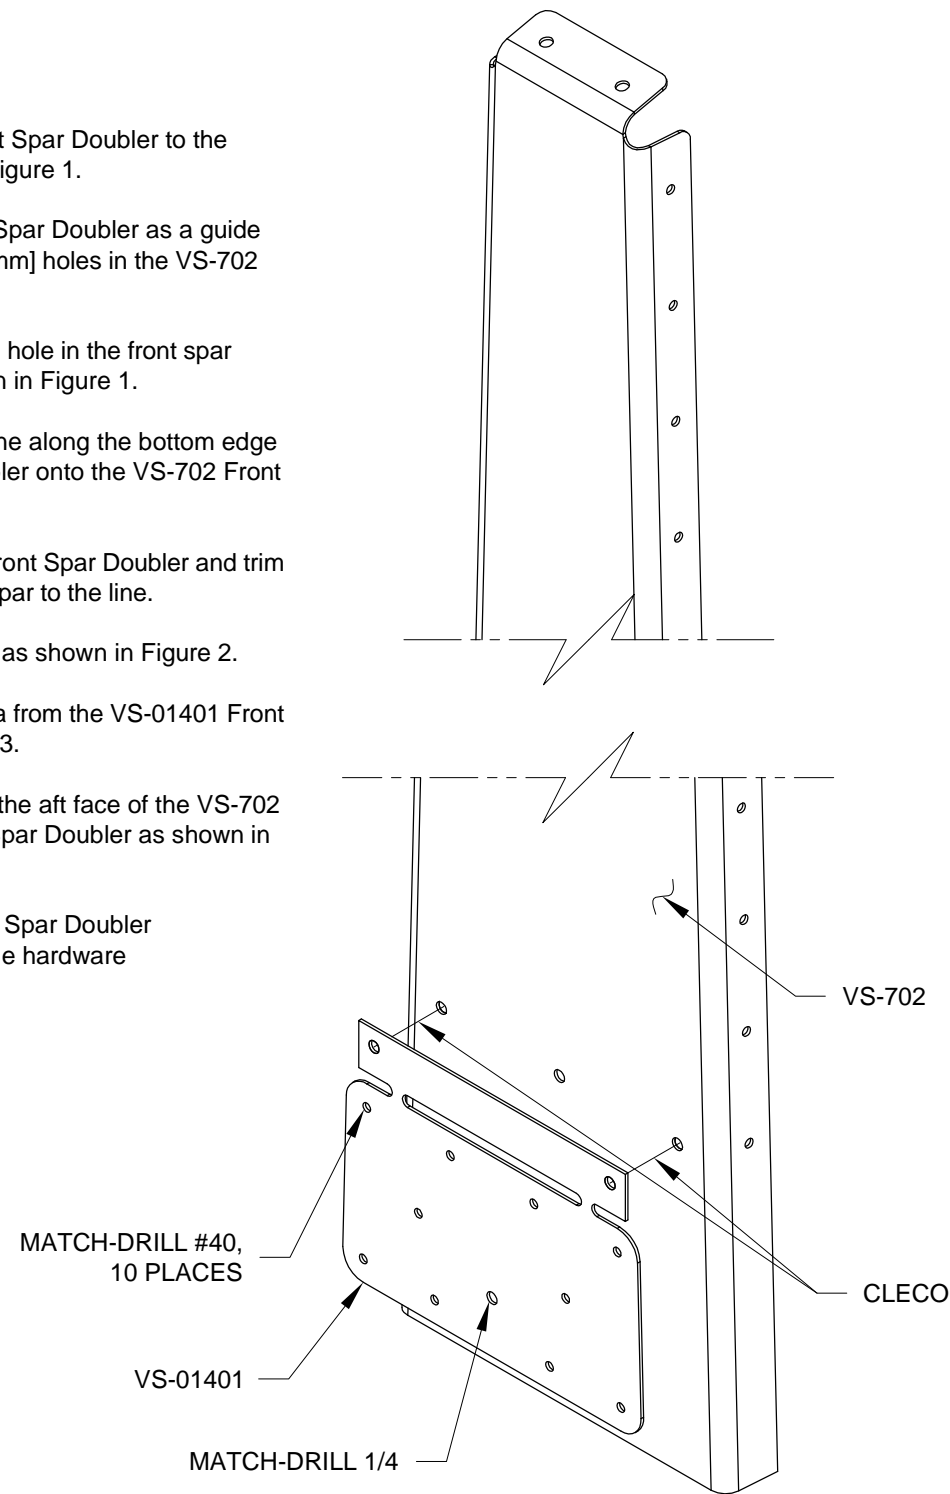

FIGURE 1: FORWARD SPAR MODIFICATION
Step 1: Cleco the VS-01401 Front Spar Doubler to the VS-702 Front Spar as shown in Figure 1.
Step 2: Use the VS-01401 Front Spar Doubler as a guide to Match-Drill #40 the 3/32 [2.38mm] holes in the VS-702 Front Spar as shown in Figure 1.
Match-Drill 1/4 the 1/8 [3.175mm] hole in the front spar doubler to the front spar as shown in Figure 1.